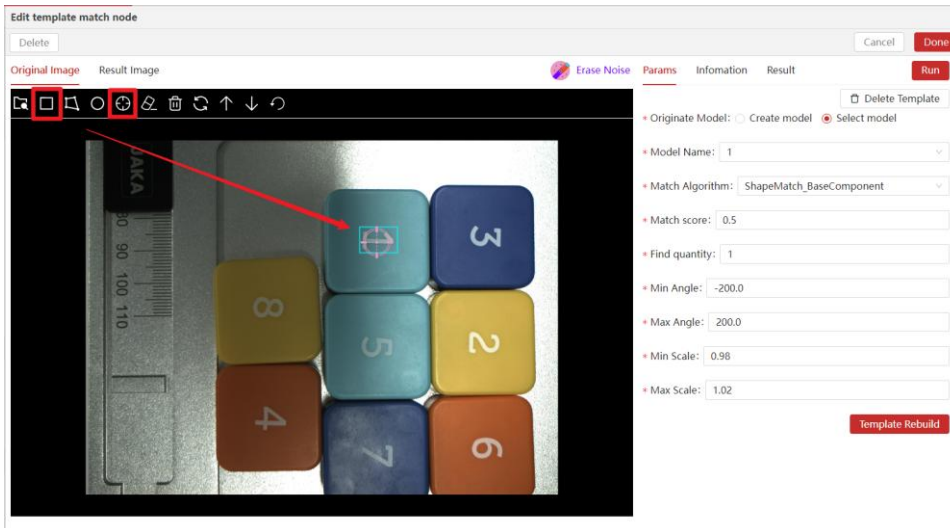

Figure 4.2-4
4) Open the [Template Matching 1] node. For example, Figure 4.2-4 configure template matching parameters. Click Run to create a template for Number Block 1.